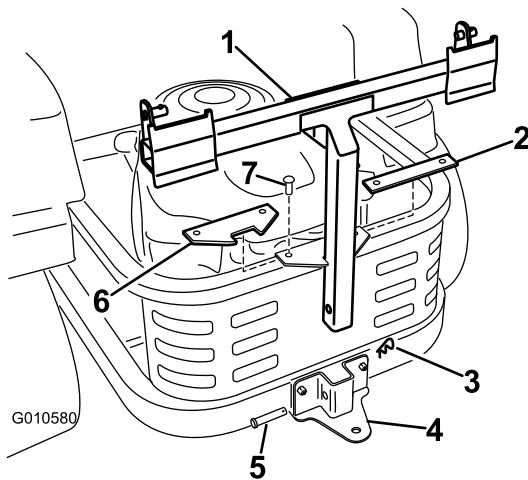

Figure 5
4. Install the new angle spacer plate as shown in Figure 5 using the fasteners removed previously.
5. Install the bagger frame to the support bracket. Secure the bagger frame with a clevis pin (1/2 x 2-1/4 inch) and hair pin cotter (Figure 5).